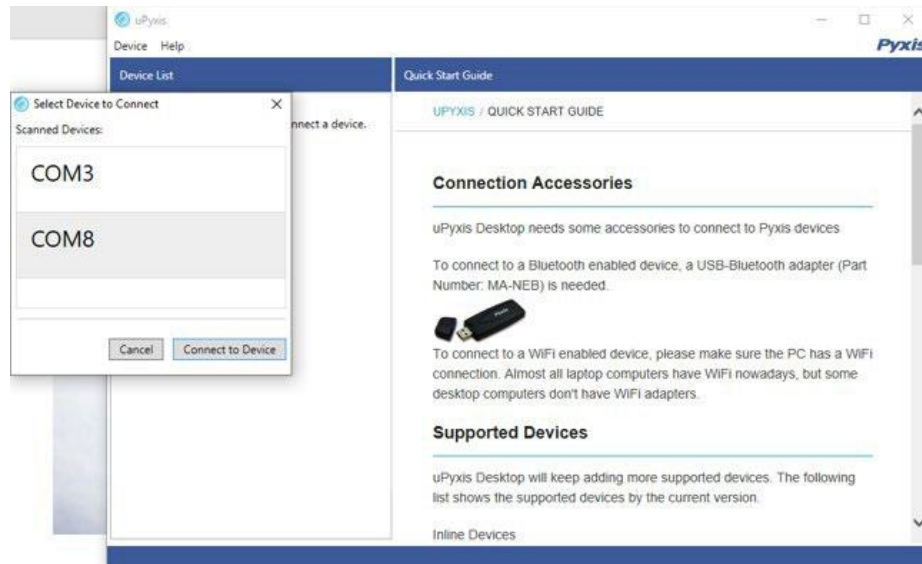

Figure 40. Select a Comm Port
6. Select the **Comm Port** to make a connection. Normally only one Comm port is identified by uPyxis (Figure 40). If more than one Comm port listed in the selection dropdown, you may try to select each one to see if a connection can be made. Alternatively, you may use the Windows Device Manager to identify the Comm Port that the Pyxis USB adapter is using.